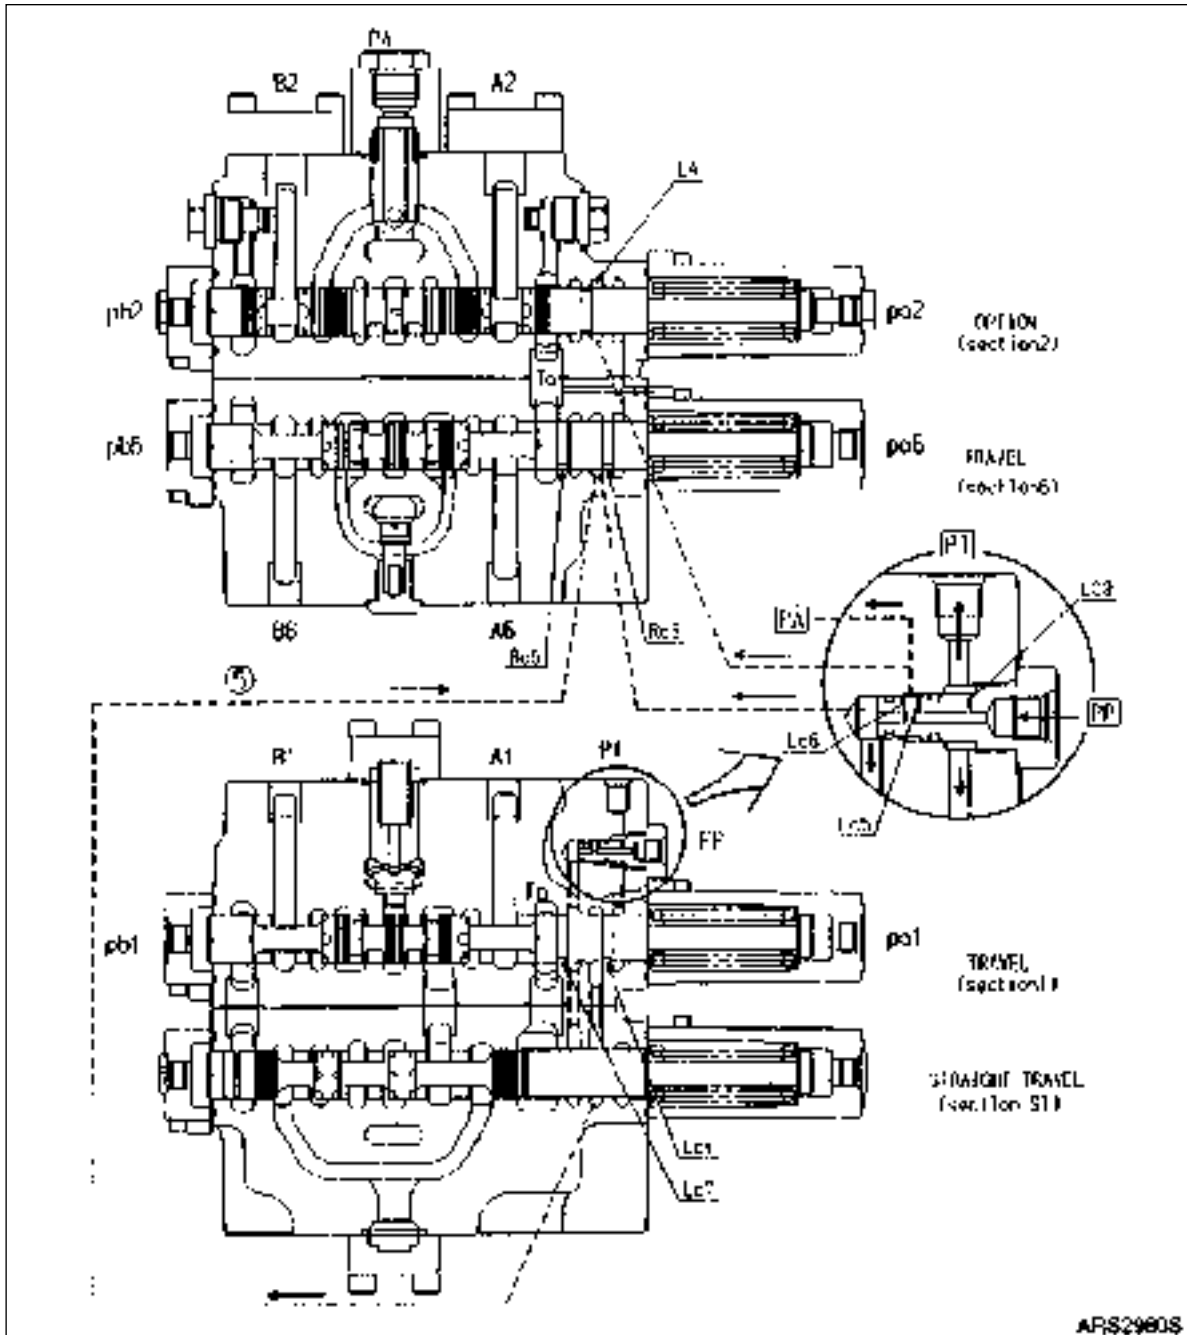
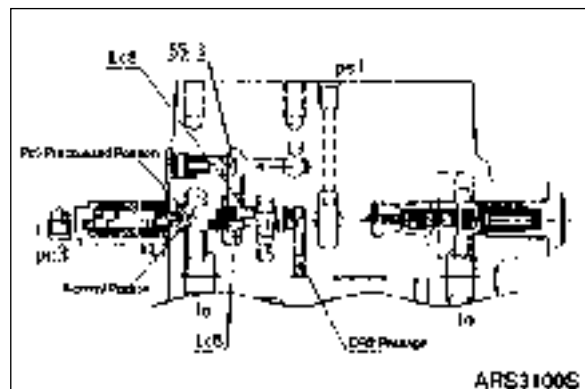

Figure 3
Figure 14
The oil supplied from the port (PP, Figure 2 and Figure 3) flows through the orifice (Lc3) to port (PT) and simultaneously flows through the land (Lc4), the passage (5), and land (Rc3) into the tank passage (Ta). The some oil supplied from the port (PP) flows through the orifice (Lc5) into port (PA), and also flows through passages (L4)(7) and (R4) to the bucket spool land (Rc4) and flows into drain passage (DR). The oil passed through the orifice (Lc6) flows from the land (Lc7) to the tank passage (Ta) or passes through the passage (4) to the travel spool land (Rc5) and flows into the tank passage (Ta).
The orifice, which is installed in the parallel passage for the arm 1 of this valve, controls arm speed when operating the combined operation. The oil supplied from parallel passage (L3, Figure 14) of arm 1 (section 5) pushes and opens poppet (S-3), after passes through orifice (Lc8) of variable orifice A54 spool, and then is connected to passage (L5, Figure 3). From here, the flow of orifice (Lc8) can be varied by increasing the pressure against pilot poppet (Pc3).